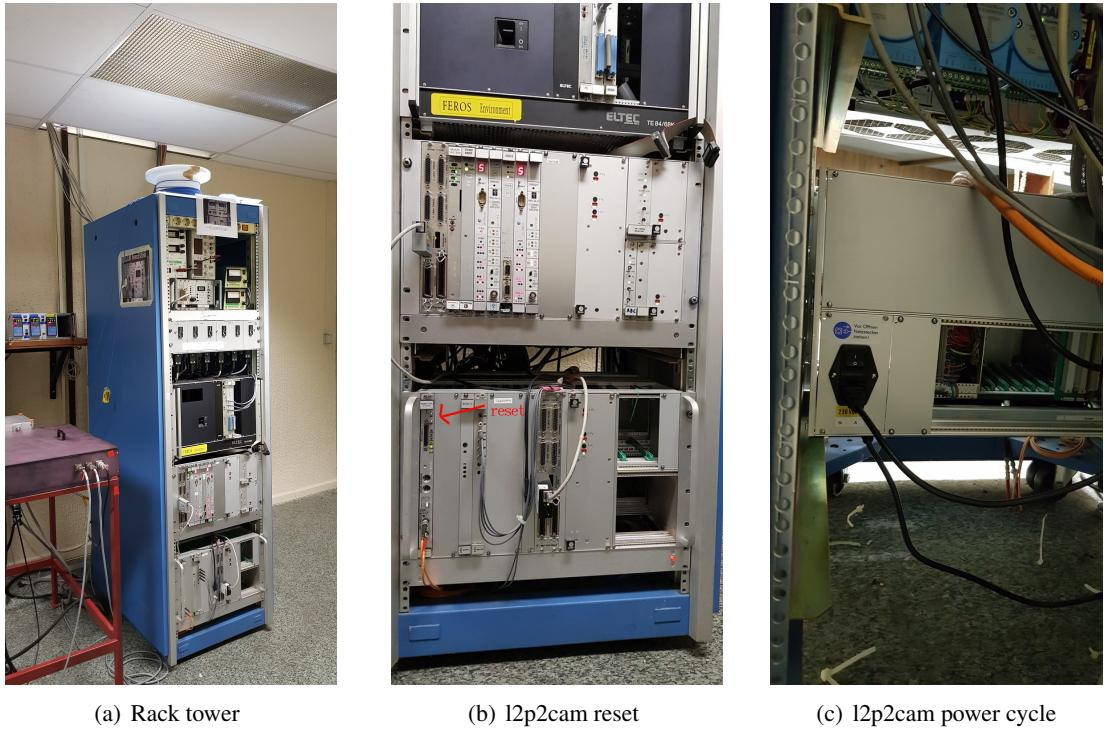

Figure 8.1: Rack with the FEROS AG LCU.
- (b) Locate the big blue rack tower (Fig. 8.1(a)).
- (c) On the lower racks, near to l2p2cam label, push a small RST button (Fig. 8.1(b)).
- (b) On the back of the rack tower, unplug and replug the lower rack (Fig. 8.1(c)).